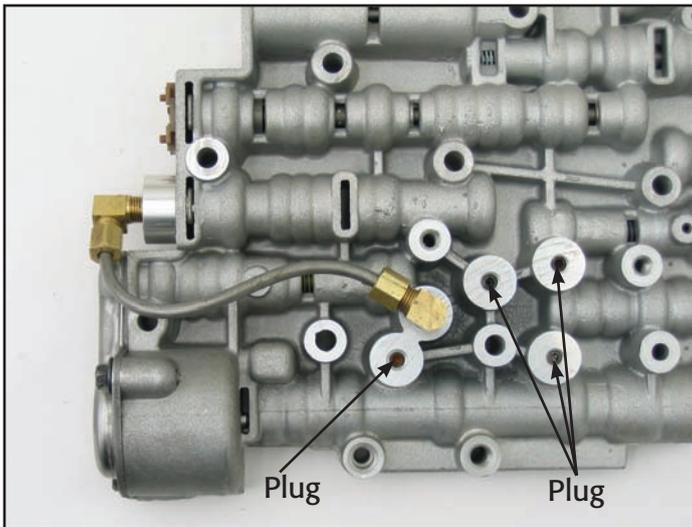

Figure 13:
the pressure switch manifold with Allen head set screws, because you won't be using the manifold any more (figure 13). Because the pressure switch manifold is 0.300" thick, you must use shorter bolts to replace the three that went through the manifold. Or you can do what I did and pop three of the inserts out and add washers to make up the difference in length (figure 14).
- 4) Using 3/16" steel tubing, fabricate a tube to connect the two fittings (figure 13). Try to form the tube into the shape of an "S" so it's easier to install.